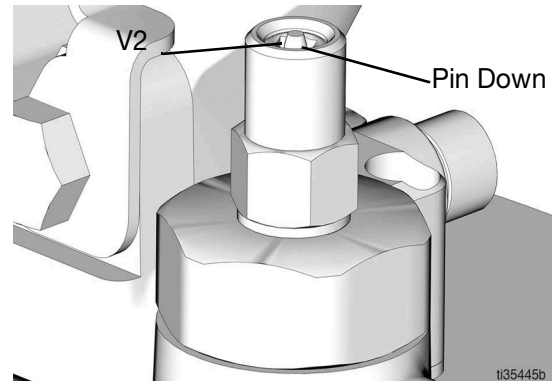

FIG. 14
1. Pull and hold the fill valve pressure relief knob (FF) long enough to relieve line pressure between the fill valve (EE) and the auto-fill shut off valve (V).
2. Verify the auto-fill shut off pin (V2) is down, indicating it is reset (FIG. 14).